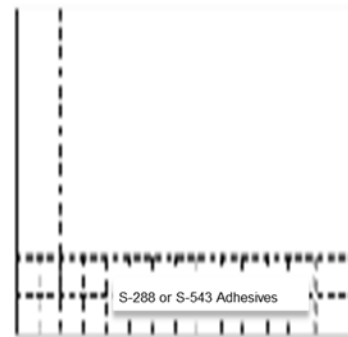

Figure 3 Adhesive band
- Apply the Adhesive in 2' or 3' bands (Figure 3), being careful not to cover the chalk lines. Do not apply more adhesive than you can cover within 45 minutes. Allowing a 10-minute open time and fitting the border tile tightly will reduce tile shifting and adhesive oozing. DO NOT allow the adhesive to dry completely.
(Replace S-288 or S-543 with S-1000 in Figure 3)